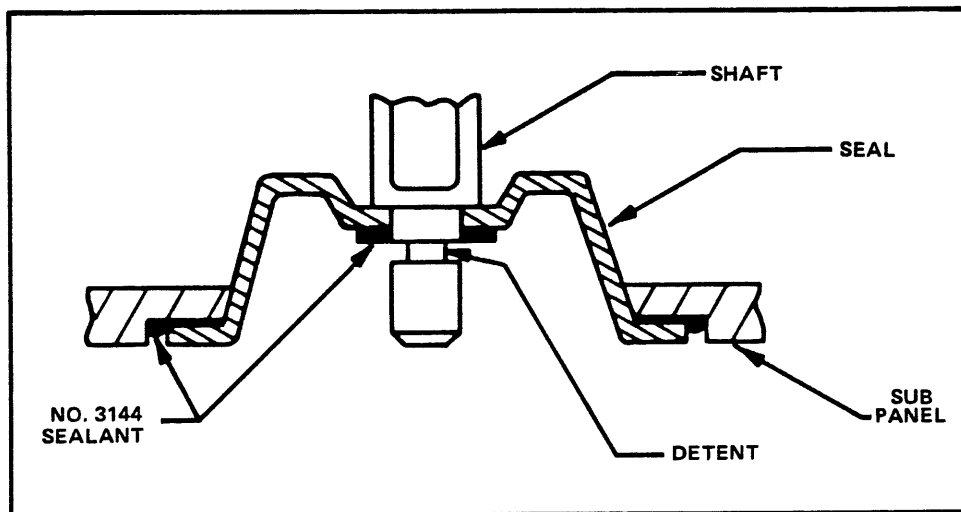

Figure 7. Detail of Pushbuttons and their Shafts.
STEP 11. Install pushbuttons and their shaft assemblies (see Figure 7)
- (1) 1502 TPN 366-1620-11, MPL Item 2-8;
- (1) Clean the mating surfaces of each shaft with isopropyl alcohol.
- (2) Insert the shafts into the pushbutton seals. See Figure 7.
- (3) Apply bead of No. 3144 sealant to each shaft/seal interface.
- (4) Install pushbuttons in their respective locations.